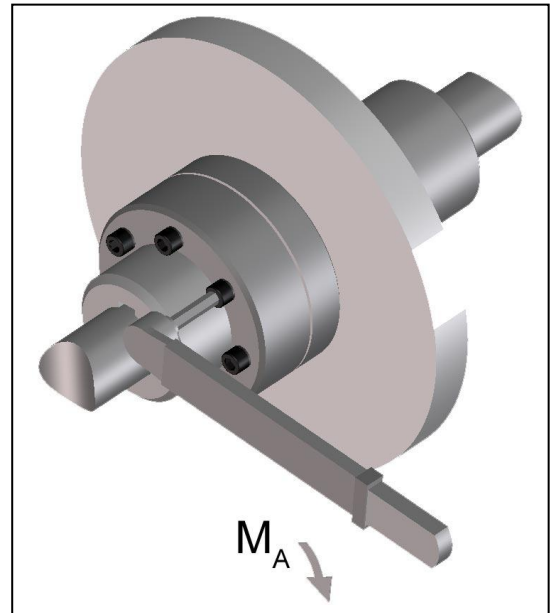

Fig. 10
- Tighten the claw ring threaded joint with the tightening torque  $M_A$  stipulated in table 6 (Fig. 10).